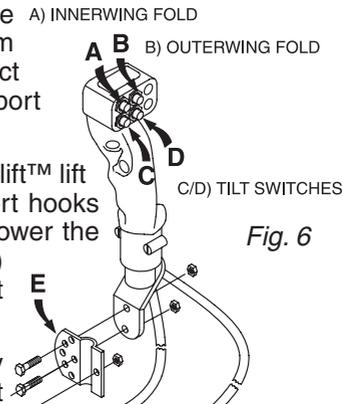

Fig. 6
2. Depress switch **(A)**(Fig. 6) and move the joystick forward or rearward to unfold the inner wing sections of the boom. Switch position of the hoses in the double acting remote outlet if you do not like the direction required to activate the boom.
3. With the boom still at the highest point, depress switch **(B)**(Fig. 6) to unfold the outer wing sections (unless spraying half folded). For tri-fold booms (100', 120' or 132') depressing switch **(B)**(Fig. 6) will unfold the intermediate wing sections first, followed by the outer wing sections. Lower boom to desired spray height.
2. Depress switch **(B)**(Fig. 6) and move joystick in opposite direction as unfold to fold in the outer wing sections. For tri-fold booms (100', 120' of 132'), depressing switch **(B)**(Fig. 6) will fold in the outer wing sections first, followed by the intermediate wing sections.
4. Depress switch **(A)**(Fig. 6) to fold in the inner wing sections allowing the bottom profile of the wing to come in contact with the vertical part of the front transport bracket.
5. Lower boom down, activating the Paralift™ lift cylinders. Make sure that the transport hooks are engaged on the cylinders. Then lower the tilt cylinders (switches **C** and **D**)(Fig. 6) until the wings are resting on the front transport supports.